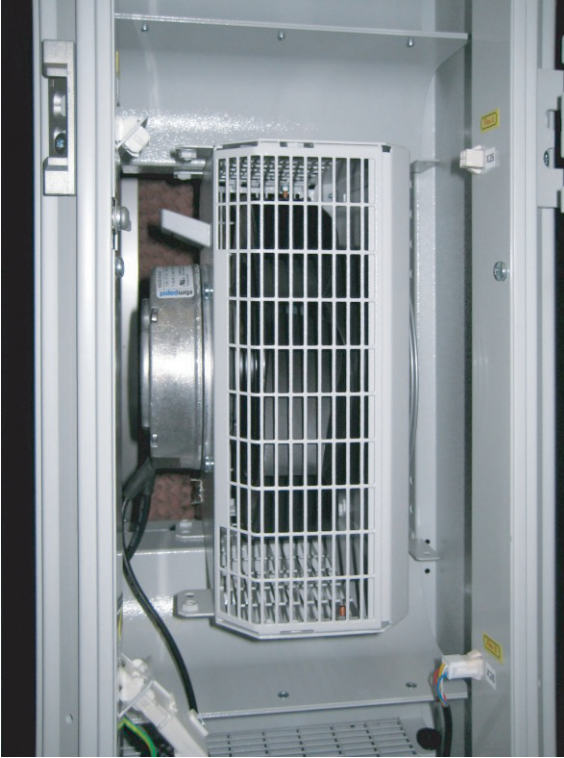

Fig. 45: Rotated fan module in fan tray
- Rotate the fan module in the rack in a clockwise direction by 90° (fig. 45).